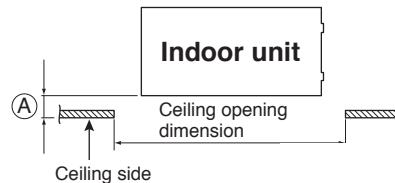

Fig. 6-11
Ⓐ must be within the range of 1/2"(13mm) to 23/32"(18mm). (Fig. 6-11) If not within this range, malfunction or other trouble may occur.
- (1) Check that the ceiling hole is 23-5/8" (600 mm) × 23-5/8" (600 mm) (Fig. 6-11)
- (2) Confirm that the position of the indoor unit and the ceiling as shown in the diagram. If the positions of the ceiling surface and unit do not match, air leakage, water leakage, flap operation failure, or other problems may occur. (Fig. 6-11)